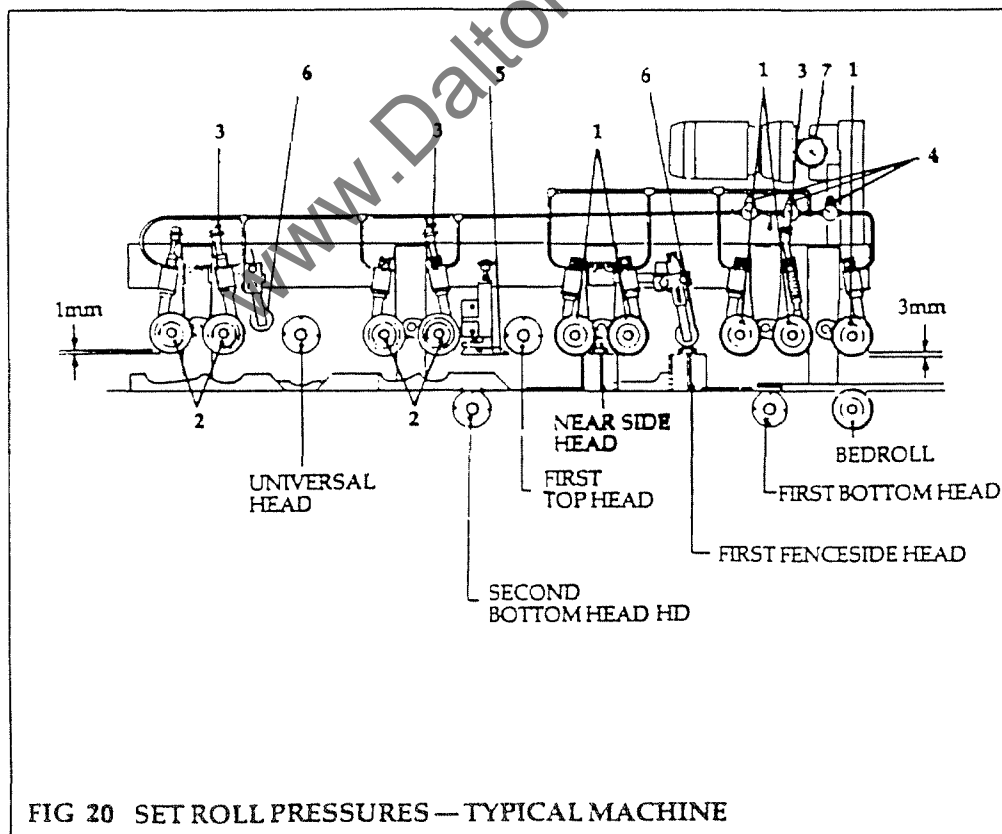

FIG 20 SET ROLL PRESSURES — TYPICAL MACHINE
#### Set Feed Roll Pressures (fig 20)
In this situation the outfeed table is adjusted vertically to the same height as the bedplate after the **Second Bottom Head**, using the handwheel (10). Adjust the feedrolls (20) and roller pressure to suit the thickness of work (see fig 20)
The universal head in the nearside vertical mode will accommodate a cutterblock having a cutting circle of 125 to 180mm. The spindle can be positioned at any angle between vertical and horizontal as required (see fig 20), using the wormdrive shaft (6). In addition, the cutter can be positioned vertically and laterally in relation to the workpiece, in increments of 0.1mm, using the traverse screws (4) and (5).
**NOTE:** In the nearside and angled positions it is necessary to remove the dust-hood (19).
- (1) To adjust vertically: release the locking handle (7), place crank handle on square of vertical traverse screw (4), turn clockwise to raise head or anti-clockwise to lower. Refasten locking handle (7) after adjustment.
- (2) To adjust laterally: release the locking handle (8), place crank handle on square of lateral traverse screw (5), turn clockwise to move forward or anti-clockwise to move back. Refasten locking handle (8) after adjustment.
- (3) To angle (cant) the spindle: Unscrew the two hexagon nuts (16) at the spindle carriage (17), place crank handle on square of worm drive (6) and adjust angle. Retighten the two nuts (16) after adjustment. The angle is measured in degrees from the horizontal on the graduated scale (18).
- (4) Fit metal rails (12a) to suit width of the work.
- (5) Select reverse motor drive (lefthand position REV) at the control panel. Check rotation of spindle.
- (6) Adjust the feed roll pressure, pressure shoes and side guides on first workpiece to ensure a smooth feed.